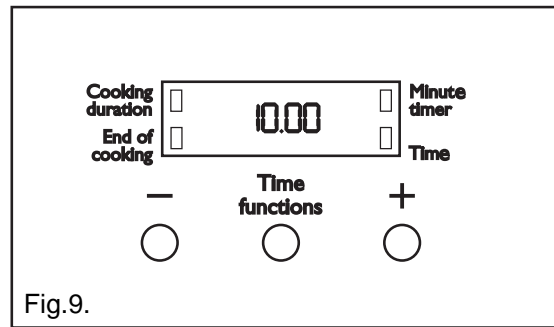

Fig.9.
- 1) Ensure the electricity supply is switched ON and that the correct time of day is displayed, e.g. 10.00am as Fig. 9.